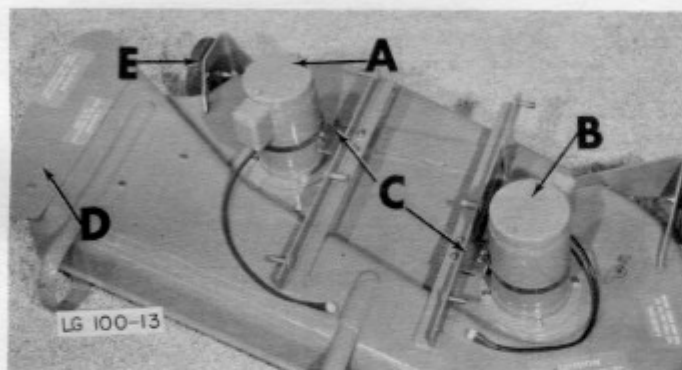

Figure 31
1. Mount motor "A" (closest to the side discharge opening) with its wire box towards the front of the mower. Mount motor "B" so its wire box is towards the rear of the mower. Secure each motor with four screws, lockwashers, and nuts with the screw heads on the top side of the deck. (See Figure 31.)
Install guards "B" using  $1/4 \times 5/8$ " machine bolts in rear holes and  $1/4 \times 5/8$ " previously installed in shield "D", Fig. 31. Tighten all bolts.
The rear mower wheels are the only part that requires adjustment. Make adjustment as follows (Figure 31):